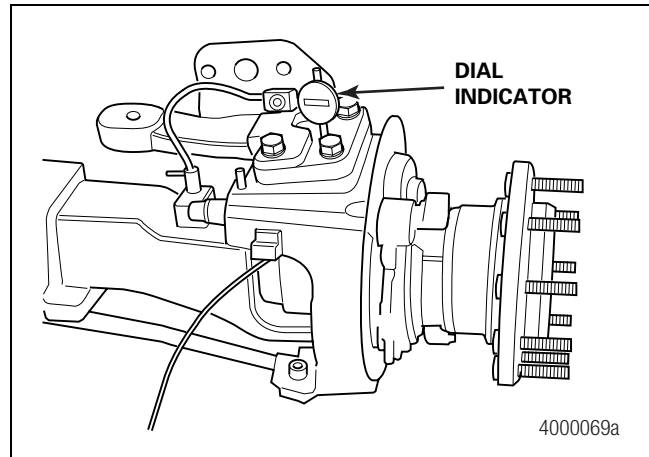

Figure 5.4
- D. Place a jack and a wood block, with a hole that allows clearance for the lower grease fitting, under the lower king pin cap area. Figure 5.4.
For heavy-duty axles, the reading must be 0.005-0.015-inch (0.127-0.381 mm). Figure 5.4.